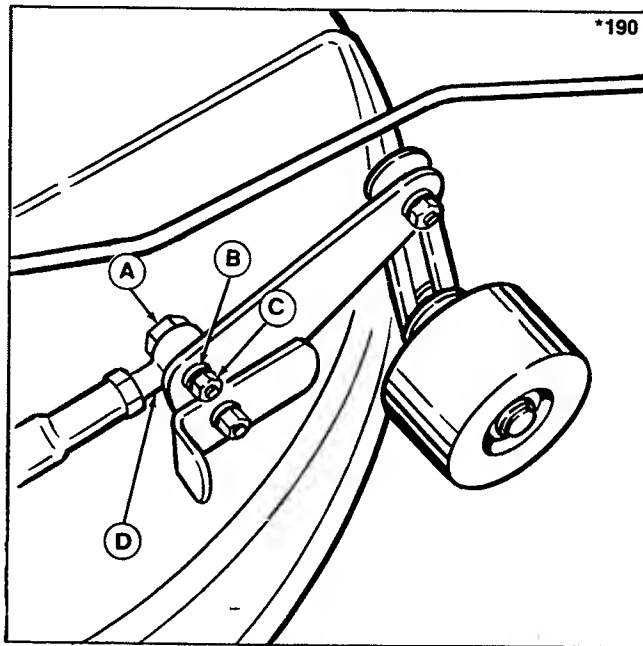

Figure 17. 26 & 30" Mower Leveling
4. Raise or lower one side until the mower is level. To do this, remove the bolt (A, figure 17), lockwasher (B) and nut (C) from one of the eyebolts (D). Turn the eyebolt in to lower that side or turn the eyebolt out to raise that side. (One full turn equals about 1/8 inch.) Install the bolt, lockwasher, and nut. Recheck the measurement taken in step 3.
7. Remove the bolt, lockwasher, and nut from one of the eyebolts (figure 17). Turn the eyebolt out to raise the rear of the mower or turn eyebolt in to lower rear of mower. Remember exactly how much eyebolt was turned and reinstall the hardware. Remove the bolt, lockwasher and nut from eyebolt on the other side of the mower and **turn eyebolt same number of turns**. Reinstall the hardware. Recheck the measurement taken in step 6.